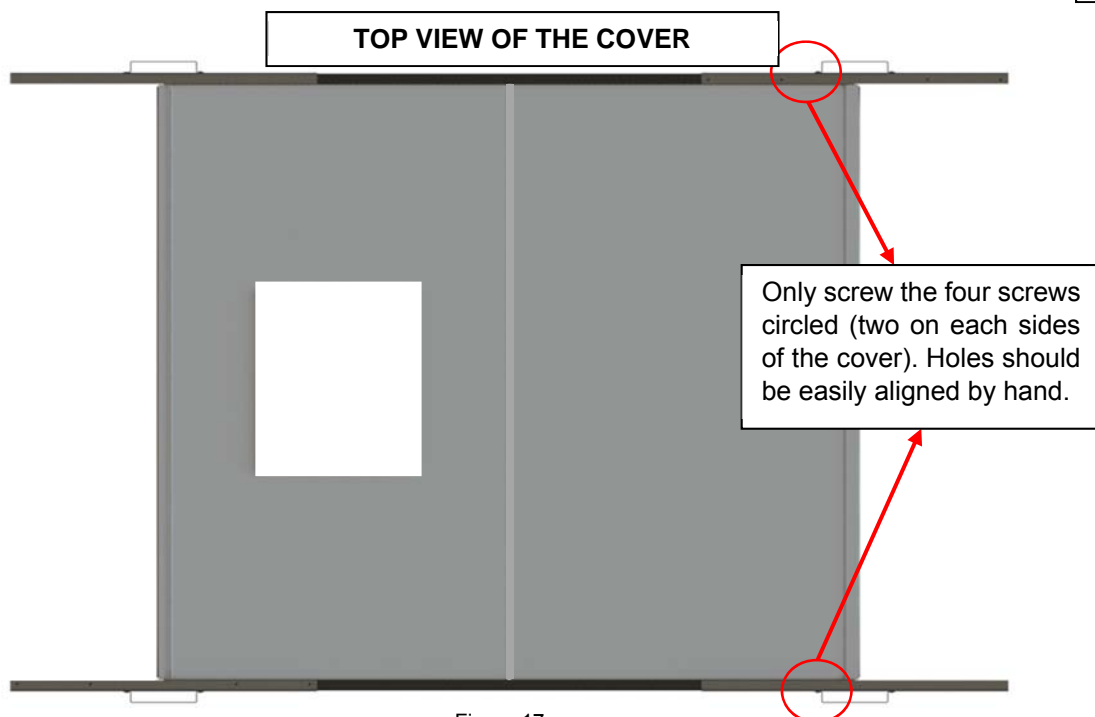

Figure 17
14) Repeat step 13 for the opposite side of the cover (Figure 17).